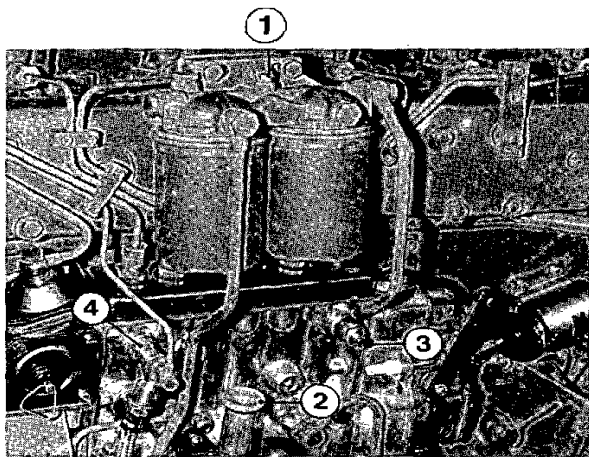

Fig. 148. Venting the fuel system
1. Open the venting screw (1, fig. 148) on the fuel filter cover.
2. Pump up fuel using the feed pump hand primer (2) until the fuel is free from air bubbles. Tighten the screw whilst fuel is flowing out. (The handle on the pump is loosened by unscrewing anti-clockwise).
3. **MD70, TMD70, TAM70:** Open the venting screw (3) on the injection pump and continue as above.